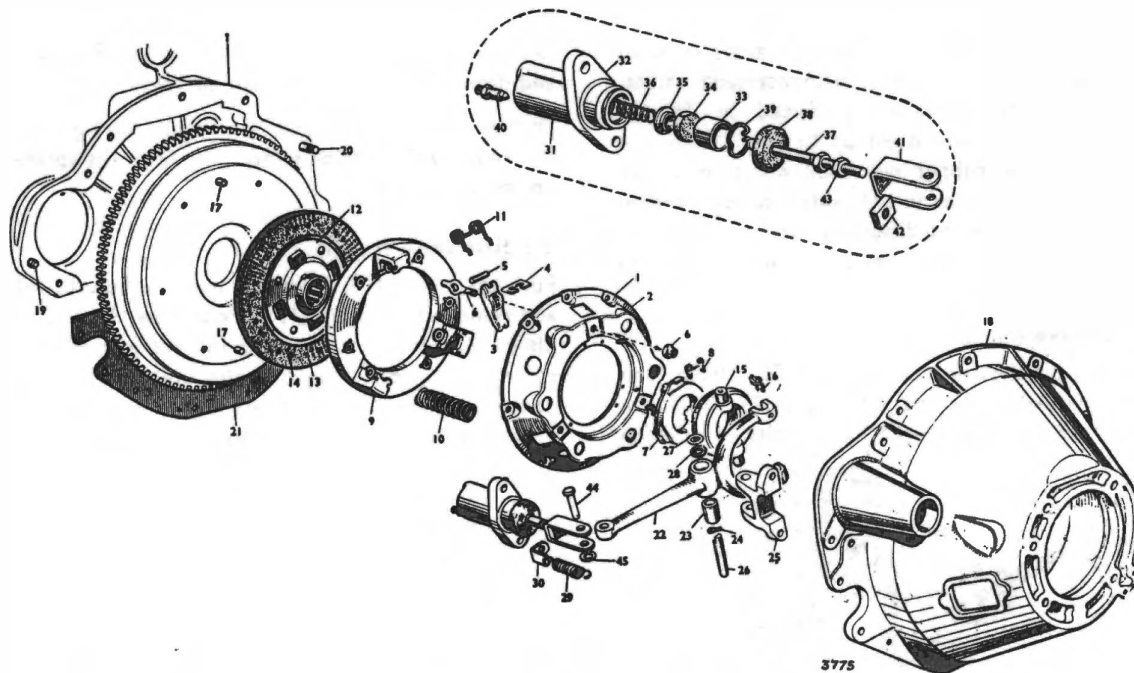

Fig. 3. Exploded view—Clutch components and slave cylinder (Alpine Series I, II and Rapier Series III cars)
Provision for bleeding the system is made on the operating cylinder. (See item 40, Fig. 3.).
#### SLAVE CYLINDER (Figs. 3 and 5)
Remove the circlip (39, Fig. 3) from the bore (Alpine Series I and Rapier Series III cars). Apply a LOW air pressure to the fluid connection to expel the internal parts.
2. Attach a rubber tube to the bleeder screw (40)—Fig. 3) on the slave cylinder, allowing the free end to be submerged in a little brake fluid in a clean glass jar.
4. Repeat (3) until air bubbles cease to appear from the end of the tube in the jar.